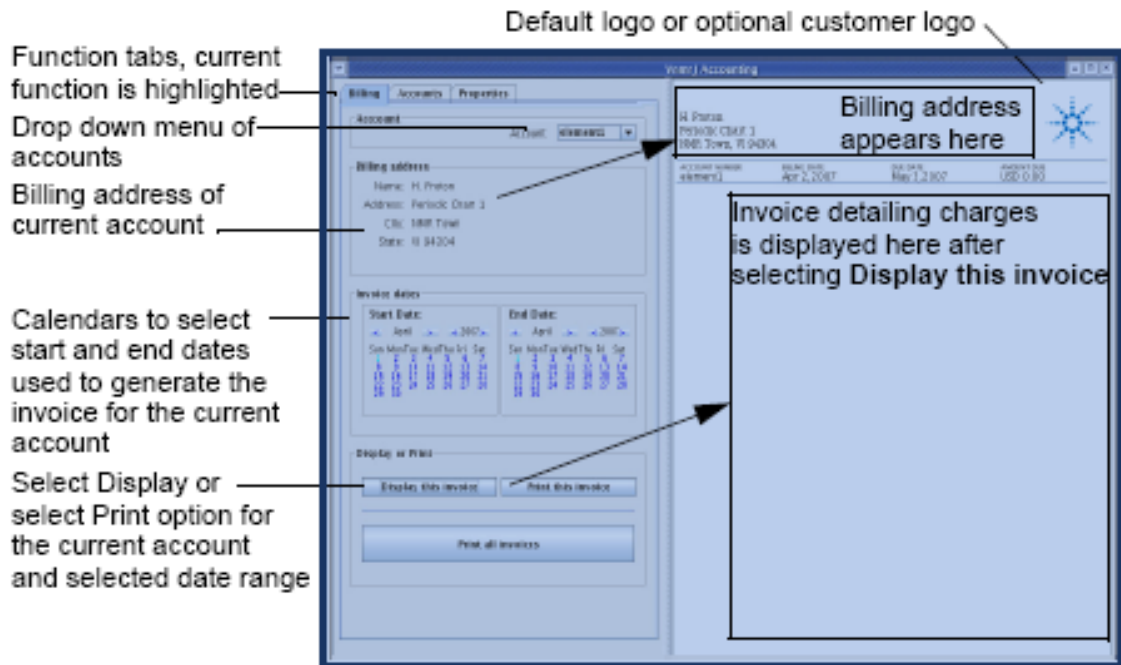

Figure 4 VnmrJ 3.2 accounting billing window
Click the **Billing** tab to open the Billing window. See Figure 4.
- a Click the **Display this invoice** button to display the invoice on the right side of the Billing tab; see Figure 4 on page 87.